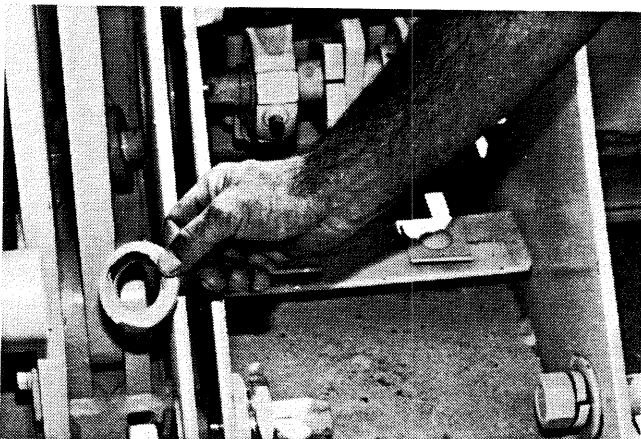

Figure 24
(12) Gently tap wedges in just until they are tight. Then tighten the nuts on the top and bottom rear pegs. If the front bottom peg is loose and the wedge won't tighten it, remove wedge and add a 1-inch washer to the peg. Then replace wedge. **(Figure 24)**
(13) Next take a straightedge and lay it against the bottom of the main screed and extension screed to see if the extension screed has any positive or